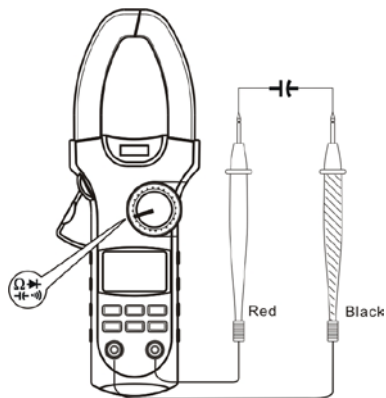

Figure 10
H. Capacitance measurement (UT208A only, see figure 10)